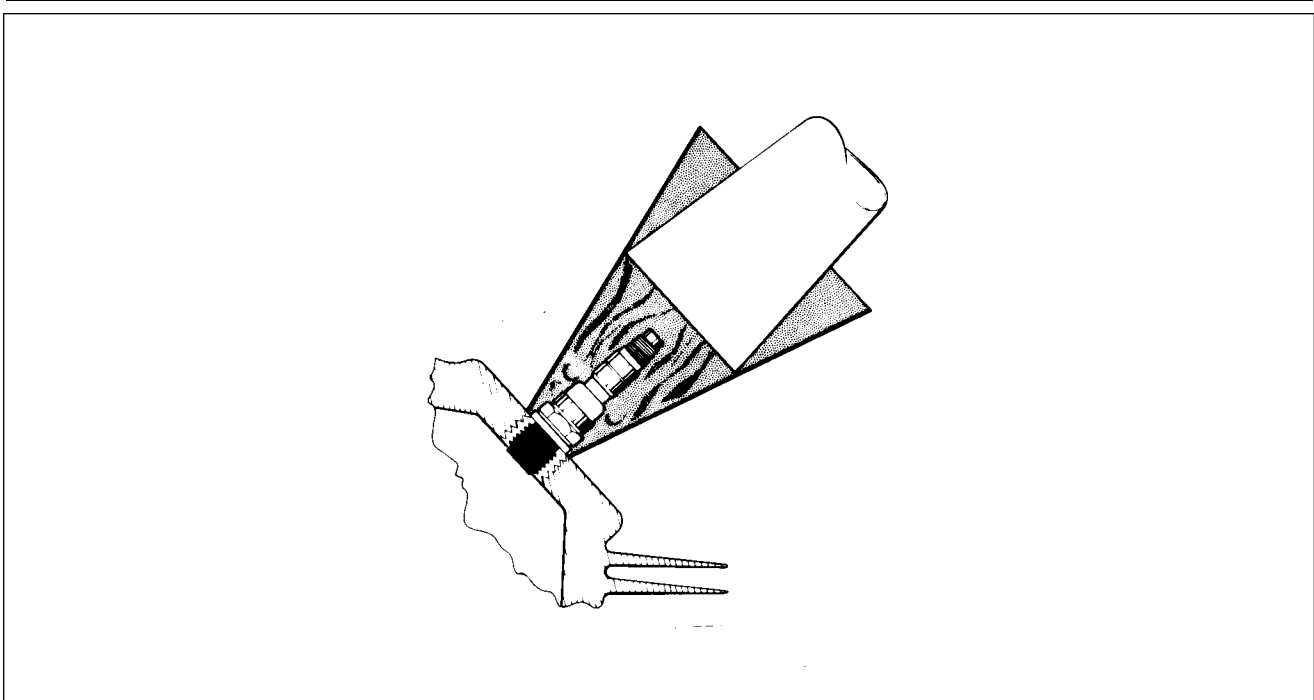

Figure 74-44. Removing Spark Plug Frozen to Bushing
4. Removal of seized spark plugs in the cylinder may be accomplished by application of liquid carbon dioxide by a Conical metal funnel adapter with a hole at the apex just large enough to accommodate the funnel of a CO₂ bottle. (Refer to Figure 74-44.) When a seized spark plug cannot be removed by normal means, the funnel adapter is placed over and around the spark plug. Place the funnel of the CO₂ bottle inside the funnel adapter and release the carbon dioxide to chill and contract the spark plug. Break the spark plug loose with a wrench. A warm cylinder head at the time the carbon dioxide is applied will aid in the removal of an excessively seized plug.